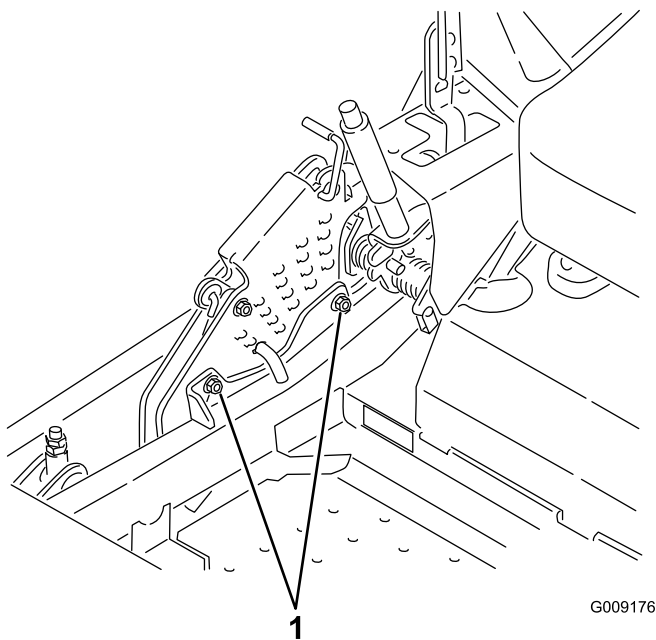

Figure 84
- To adjust the single point system, loosen the two bolts at the bottom of the height of cut plate. Refer to Figure 84.
- Tighten the two bolts at the bottom of the height of cut plate (Figure 84). Torque to 27-33 ft-lb (37-45 N-m).